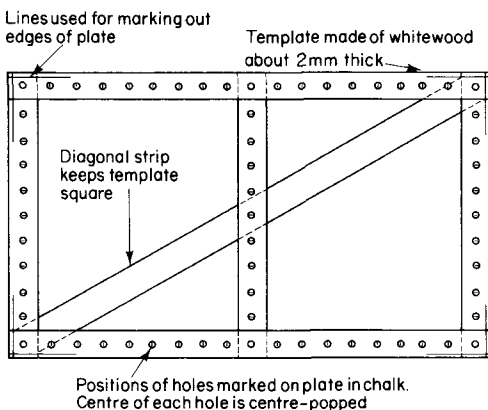

Fig. 4.34 A wooden template for a plate detail
**Templates.** Structures such as roof trusses, bridge girders and cranes are made up of a great many different parts. These parts are made separately in a fabrication shop and transported to the site for assembly and erection. In order to make sure that everything fits properly templates are made for each part. These templates are made from plywood, whitewood, hardboard, millboard or special template-making paper. The templates have holes drilled in them to represent holes in the finished parts and they also have provisions made so that the outlines of the part can be marked. Fig. 4.34 shows a template intended for a plate detail.